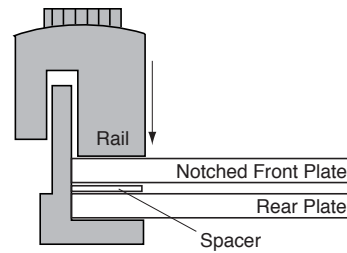

Figure 2-4. Bottom view of assembled gel apparatus showing the proper fit of the plates and spacer in the rail.
4. Check to make sure the rails fit tightly against the edges of both glass plates (Figure 2-4). The spacer must also be tight against the rail. A leak will occur if there is a gap between the rail and either plate, or between the rail and the spacer.